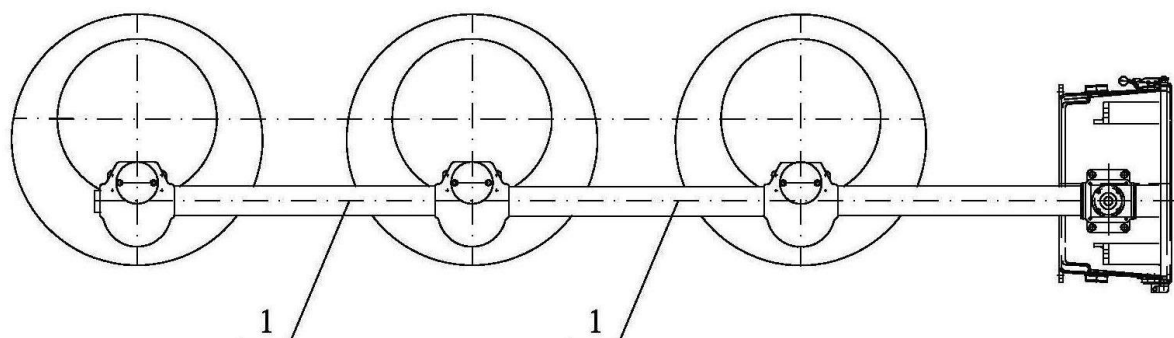
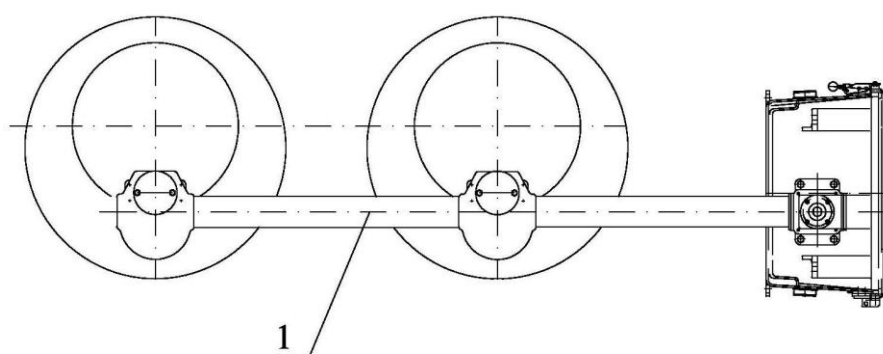
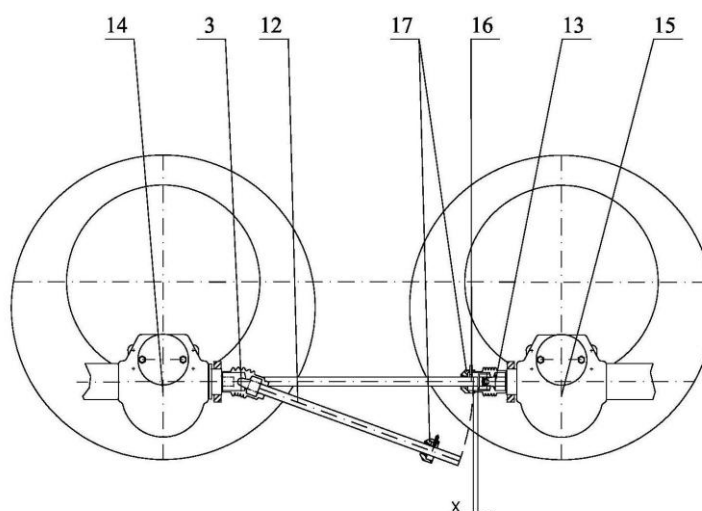

Fig.41 – Connection diagram showing 3xRS9.3-I with MZ 4.4
Fig.42 – Connection diagram showing RS9.3-I and RS9.3-II with MZ 4.4
Fig.43 – Installation sequence
This type of installation is used in the P3, P4, P9 and P10 arrangements of drive shafts (see Drawing № 209, Sheet 1, 2 and Drawing 209.3, Sheet 1, 2 from the OLTC catalog). These shaft arrangements are used in the cases of joint operation of single-phase OLTCs (3xRS 9.3-I, Fig. 41), or joint operation of RS 9.3-I and RS 9.3-II, Fig. 42 (with a common MDU in both cases).
The installation sequence of the shafts (Pos. 1) from Fig. 41 and Fig. 42 is shown on Fig. 43.
11.4.1. Connect the first end of the horizontal shaft (Pos. 12, Fig. 43) to the worm gear (Pos. 14) by means of a standard cardan coupler (Pos. 3). Couple the other worm gear (Pos. 15) to a special cardan coupler with a slot (Pos. 16). Uninstall the closing cap (Pos. 17) from the special cardan coupler and place it on the free end of the horizontal shaft (Pos. 12). After installing the shaft's end in the slot of the special cardan coupler, close the cap (Pos. 17) and fix it by means of a screw (Pos. 18).